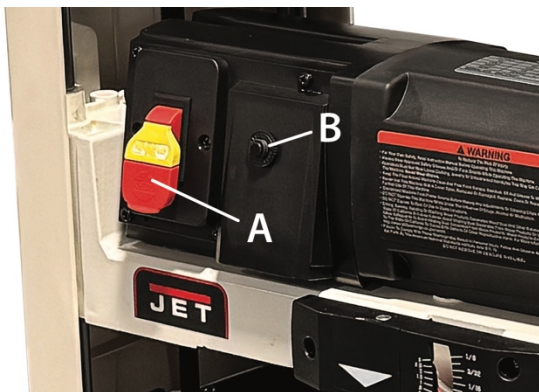

Figure 9-2
- Switch (A, Figure 9-2)
- Reset button (B, Figure 9-2)
4. Plug in the power supply cable's plug and start the motor by pulling out the bottom of the ON/OFF switch (A, Figure 9-2).